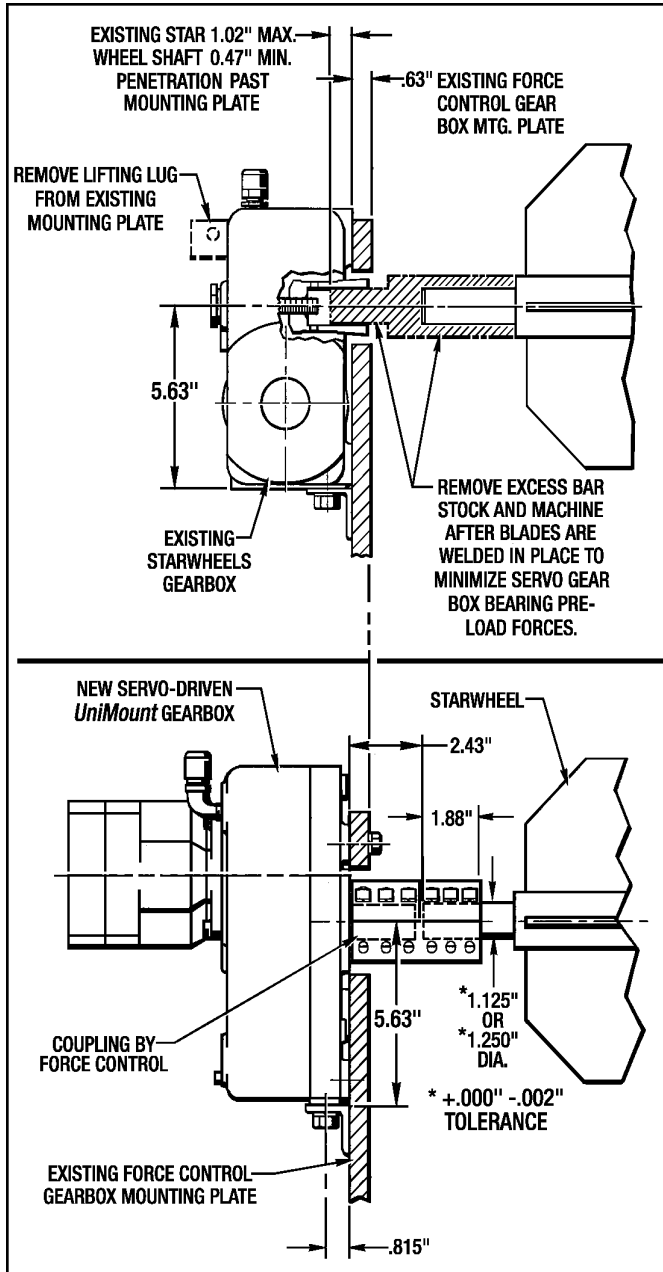

Figure 3.1 - Retrofit Installation for UniMount Gearbox
2. Also the lifting lug on the old Mounting Plate will have to be cut off and ground smooth so there will not be any interference in mounting the new Servo Driven *UniMount* Gearbox. (See the top half of Figure 3.1)
3. Remove excess bar stock from the Starwheel Shaft as shown in Figure 3.1.